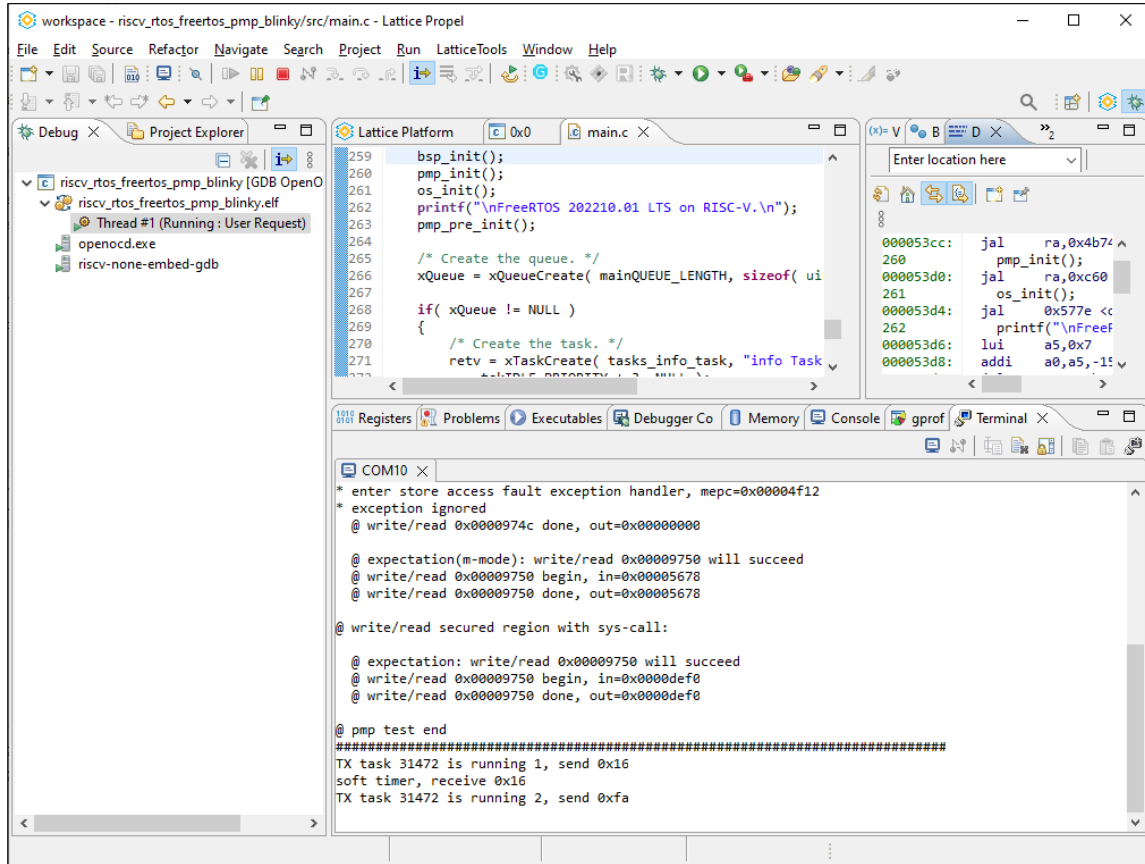

Figure 5.6. Running/Debugging Windows 1
9. Click the **Resume** icon  on the toolbar. The serial terminal outputs running logs (Figure 5.6).